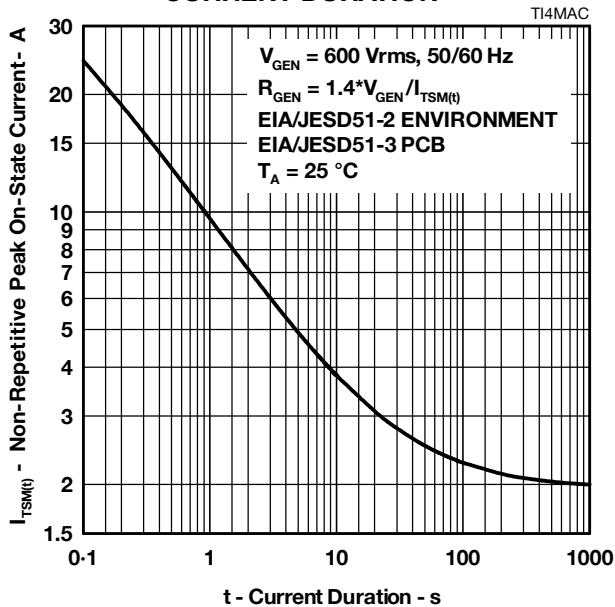

Figure 9.
5. EIA/JESD51-2 environment and EIA/JESD51-3 PCB with standard footprint dimensions connected with 5 A rated printed wiring track widths. See Figure 9 for the current ratings at other durations. Derate current values at -0.61 %/ $^\circ\text{C}$ for ambient temperatures above 25°C .
The protector can withstand currents applied for times not exceeding those shown in Figure 9. Currents that exceed these times must be terminated or reduced to avoid protector failure. Fuses, PTC (Positive Temperature Coefficient) thermistors and fusible resistors are overcurrent protection devices which can be used to reduce the current flow. Protective fuses may range from a few hundred milliamperes to one ampere. In some cases, it may be necessary to add some extra series resistance to prevent the fuse opening during impulse testing. The current versus time characteristic of the overcurrent protector must be below the line shown in Figure 9. In some cases, there may be a further time limit imposed by the test standard (e.g. UL 1459 wiring simulator failure).